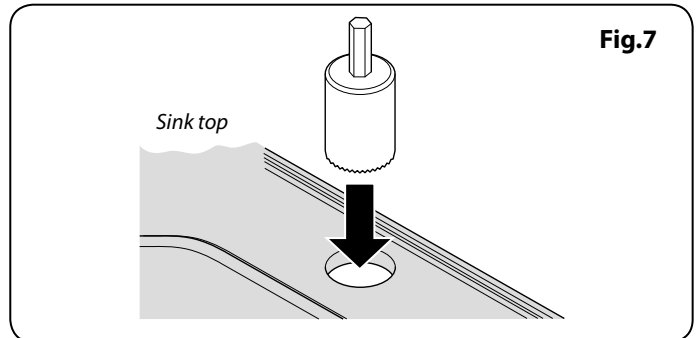

Fig.7
2. Using a 35 mm hole saw, carefully cut out the tap hole (**Fig.7**).